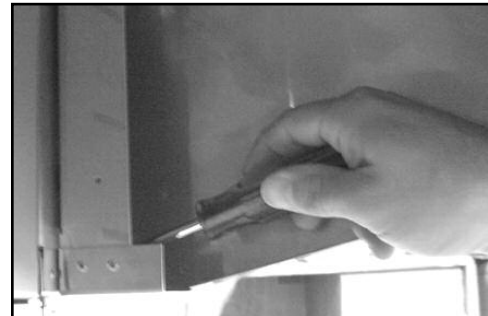

Fig. 2
4. Install one self tapping screw into the bottom front hole of the shelf to lock shelf in place. (See Fig. 2)